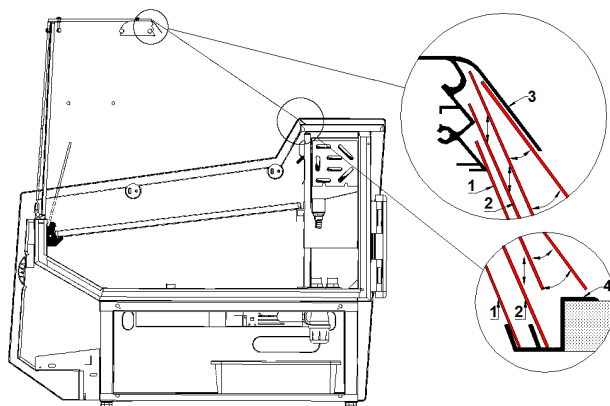

Fig. 5. Assembly/disassembly of night shutters
10. Place the drip tray on the base of the device, under the siphon, according to fig. 4/3 (p. 14) or fig. 5/3 (p. 14)